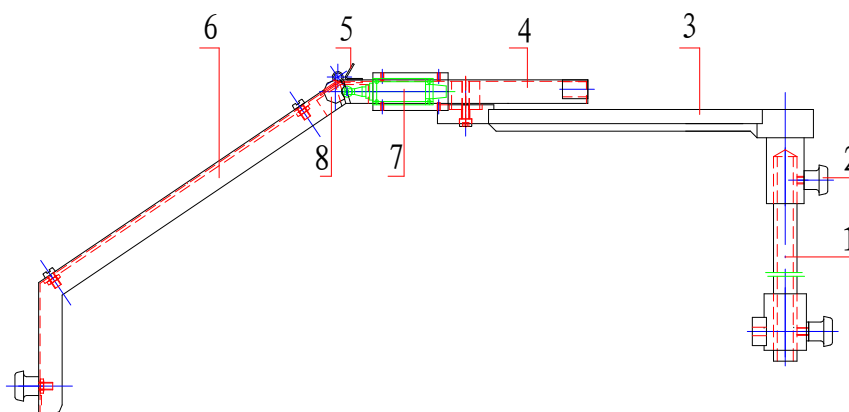

Fig. 25. Guard for carriage
The rear section (3) of protecting cover, fixed on the vertical shaft (1) on the rear side of the carriage, can be rotated around the shaft (1) and gets out of the top space of workpiece during the period of loading/unloading workpiece. When you want to work, you can lift the front section (6) of protecting cover and let it pressing the touching face of the middle section (6) there is cam (8), when the front section gets away from working position (laying down status), the cam (8) is pressing the switch (7) firmly to make it switching off, at this time, the spindle stops running. When the front section is laid down to working position, in this time, the cam (8) can make the switch (7) switching on, at this time, you can start the machine (\*see Fig. 25).